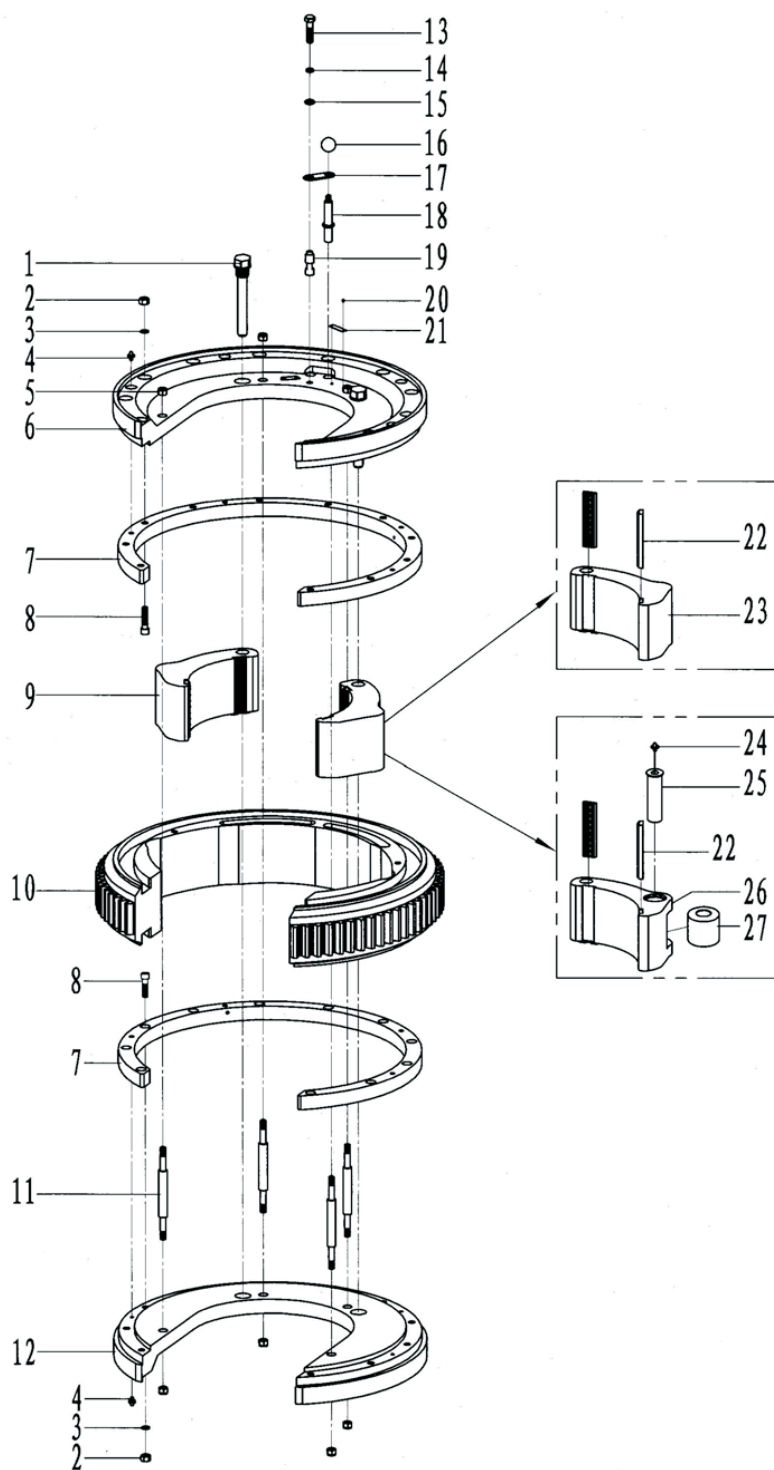

Fig.3
7.3 Assembly of tong head (Fig 3, Table 3)